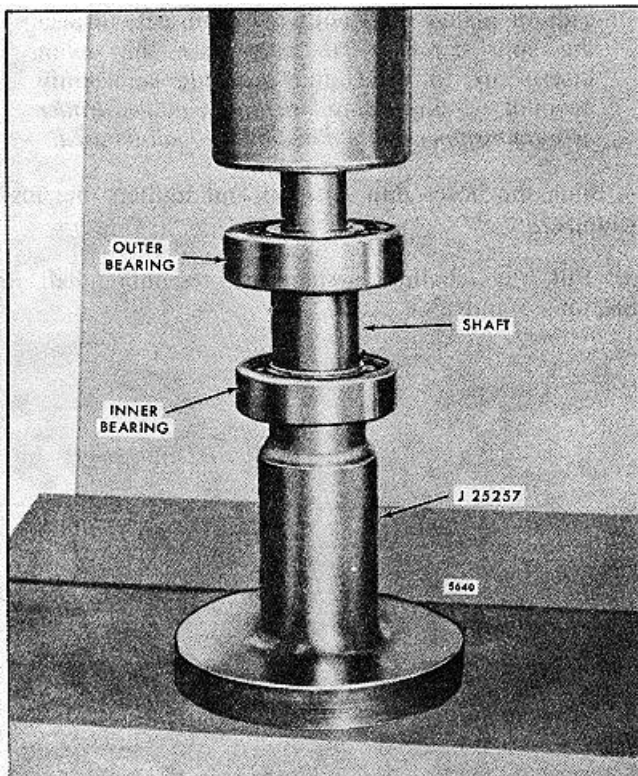

FIG. 8 - Pressing bearing on Hump Shaft using Tool J 25257
1. Lubricate the bearing bores and shaft bearing surfaces. Use bearing and gear installer J 25257 and install the bearings on the shaft (Fig. 8).